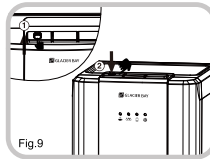

Fig.9
2. Slide the safety lock away from you and simultaneously press down the hot water button. (Fig. 9)